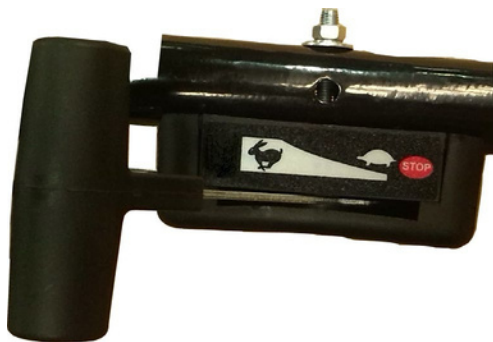

Figure 12
1. Turn the accelerator valve regulator on the handle frame to the “  ” position , which is show as Figure 12